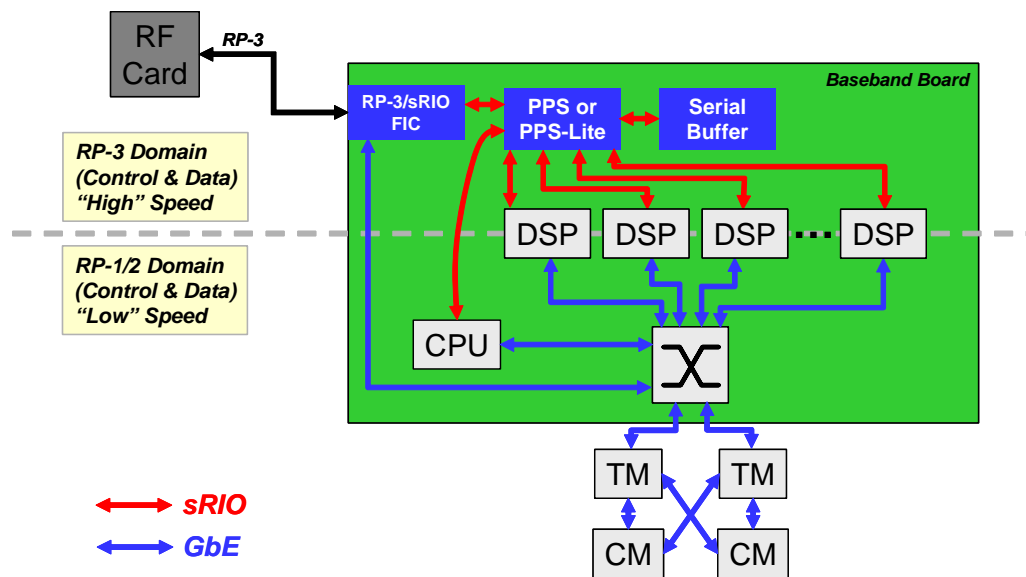

Figure 1.3 Ideal Architecture
This is a lot more modular and scalable [2] as the PPS moves to the forefront of the Baseband (BB) card, and handles both fast sample rate traffic, and slow symbol rate traffic. This is shown below in Figure 1.3, which uses the OBSAI protocol RP-3 as an example of how RF traffic might be brought to the base band board.